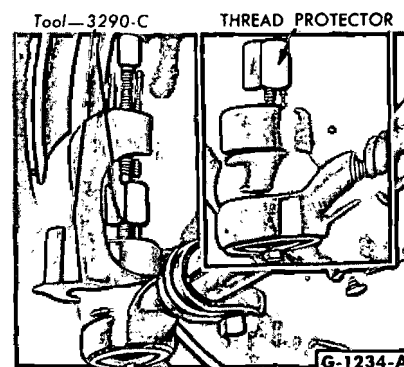

FIG. 23—Disconnecting Steering Linkage Ball Stud—Typical
2. Disconnect the end from the spindle, connecting arm, Pitman arm, or idler arm as shown in Fig. 23.
3. Disconnect the spindle connecting rod ends from the steering arm-to-idler arm rod with Tool 3290-C (Fig. 23).